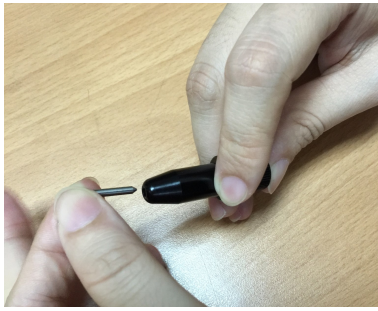

Figure 2-12
Step 1 Install blade. (Figure 2-12)